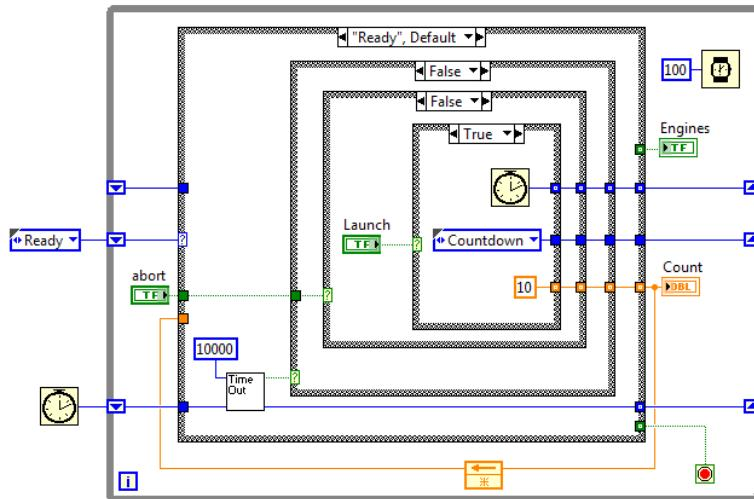

FIGURE E.16 The Ready state showing the new Shift Register being loaded with the current time.
1. Add a Shift Register, and load it with the millisecond clock as the state machine transitions from the Ready state to the Countdown state, as in Fig. E.16. Note the use of Use Default if Unwired tunnels.